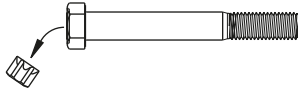

Figure 156: E20 Torx Shear Head Lower Shock Bolt
- If lower bolt has a separate nut, hold this with a suitable spanner. Use an E20 Torx socket to tighten the shear-type lower shock mount bolt until the Torx head shears off, which occurs at around 320 Nm. Refer Figure 156.